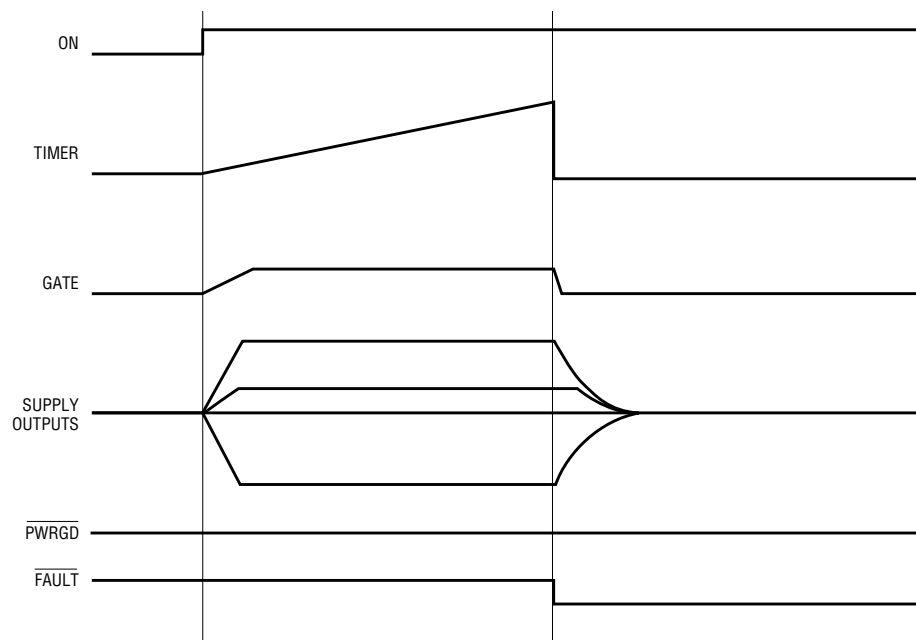
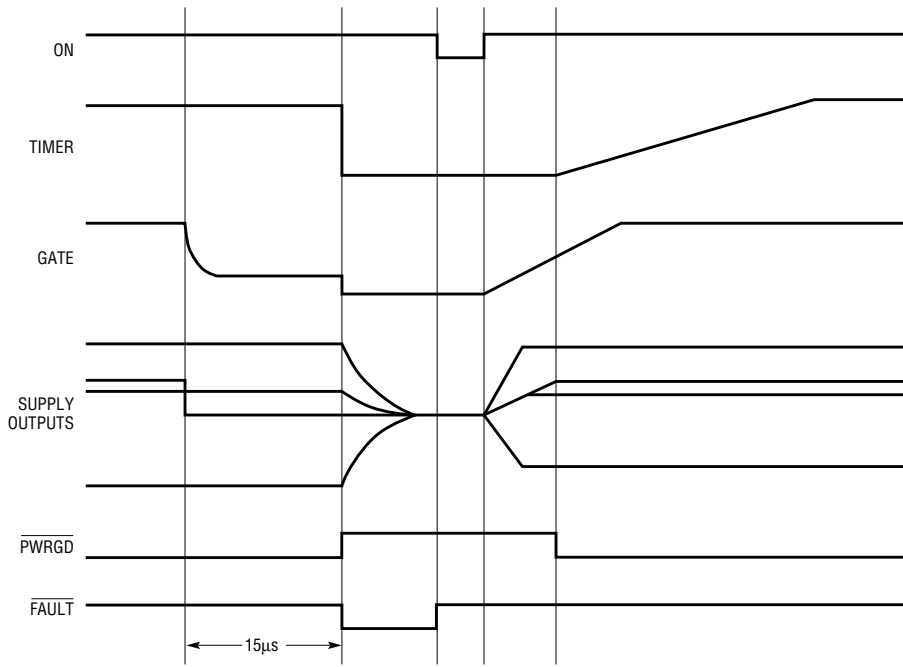

Figure 4. Power-up into a short circuit on a 3.3V output
Figure 5. Short circuit on 5V
During a normal power-up sequence, if the voltage on the TIMER pin (4) has reached its maximum and a supply is still in current limit, all of the pass transistors will be immediately turned off and the voltage on the FAULT pin (6) will be a logic low, as shown in Figure 4. If a short circuit occurs after the supplies are powered-up, the shorted supply's current will drop immediately to the limit value (see Figure 5).